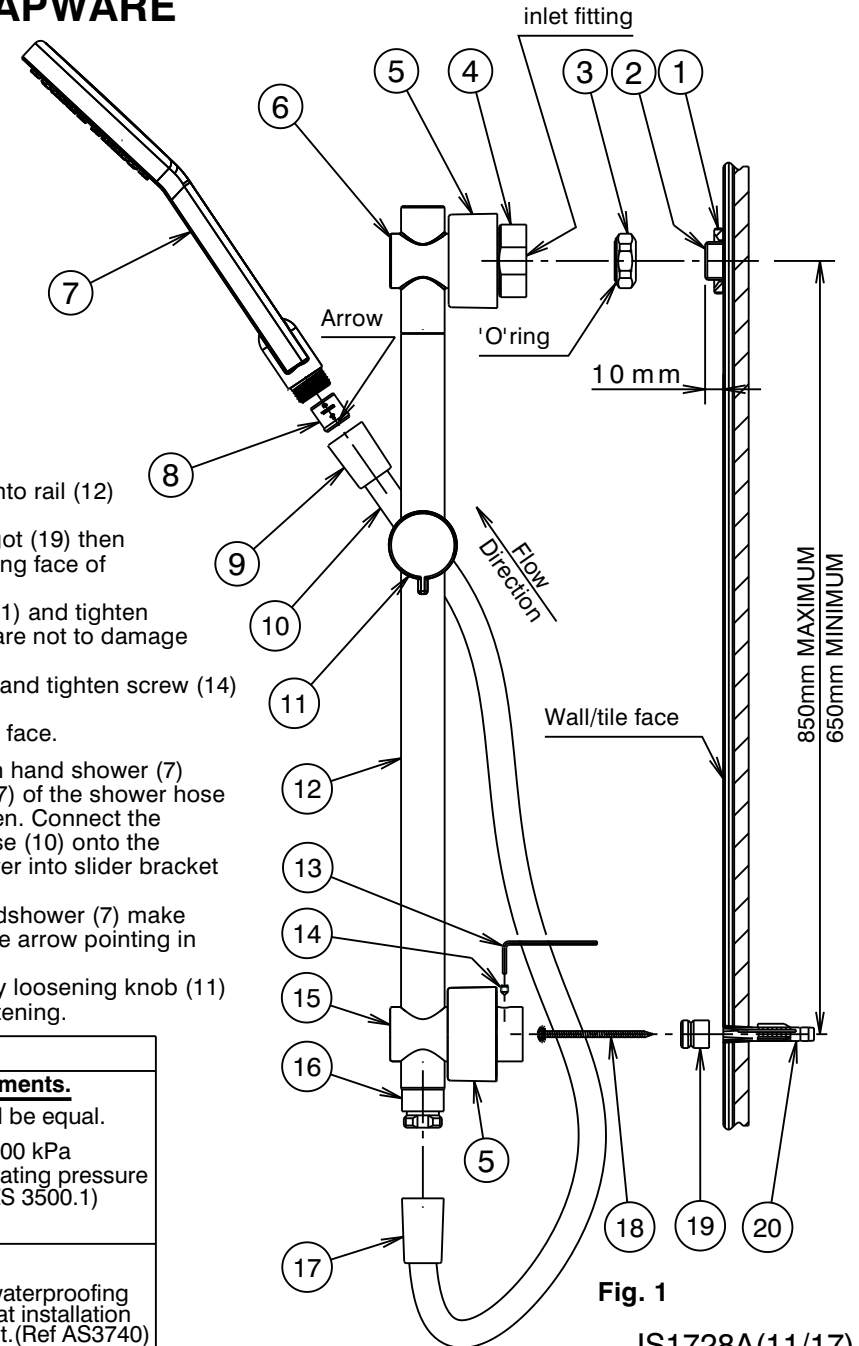

Fig. 1
- 3) Mark the position for the shower rail mounting base (15) at a suitable distance from the threaded nipple (2). (Fig 1.)
- ii) Insert small end of wall plug (20) into drilled hole and tap until flush with surface.
- 6) Fit screw (18) through the hole in mounting spigot (19) then assemble into wall plug (20) and tighten.